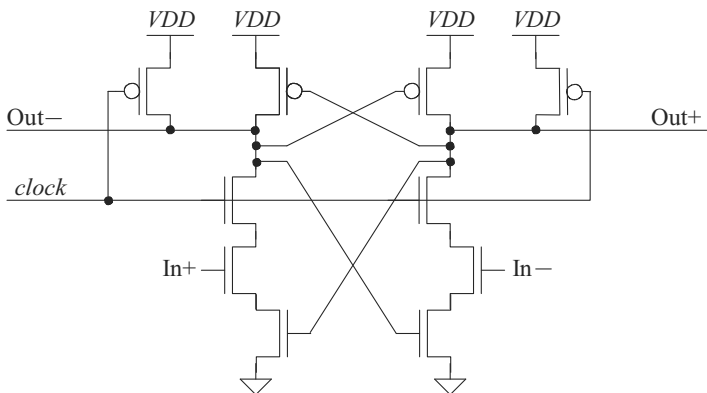

Figure 16.72 An alternative clocked sense amplifier.
- 16.7** Figure 16.72 shows a clocked comparator topology based on the topology seen in Fig. 16.32. The location of the imbalance MOSFETs has been moved in this figure. Comment on the merits and disadvantages of this topology compared to the one in Fig. 16.32. Simulate the operation of this circuit.